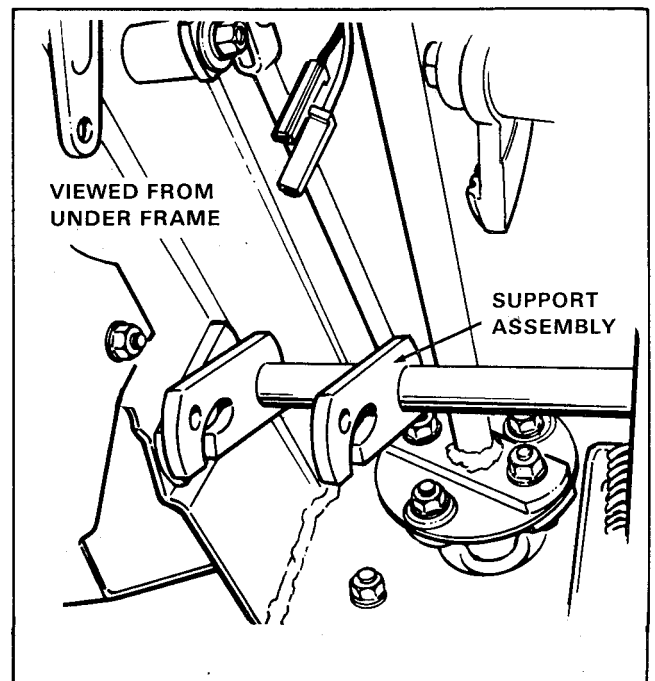

Figure 2.
7. Attach the power lift support assembly to underside of frame with four 3/8"-16 x 3/4" self tapping screws. See figure 2. The capscrews and lockwashers are installed from outside of frame into threaded holes of support assembly.